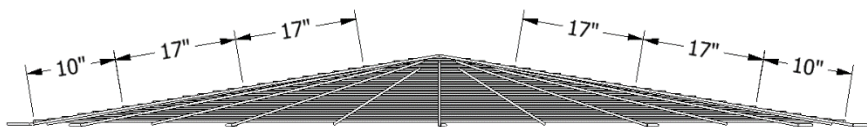

*Figure 35. Adjustments to Correct Tip Clearance*
- f. The shaft can be tilted forward or backward by inserting shims between the bearing and the support plate, either on top or bottom as shown in **Figure 35**.